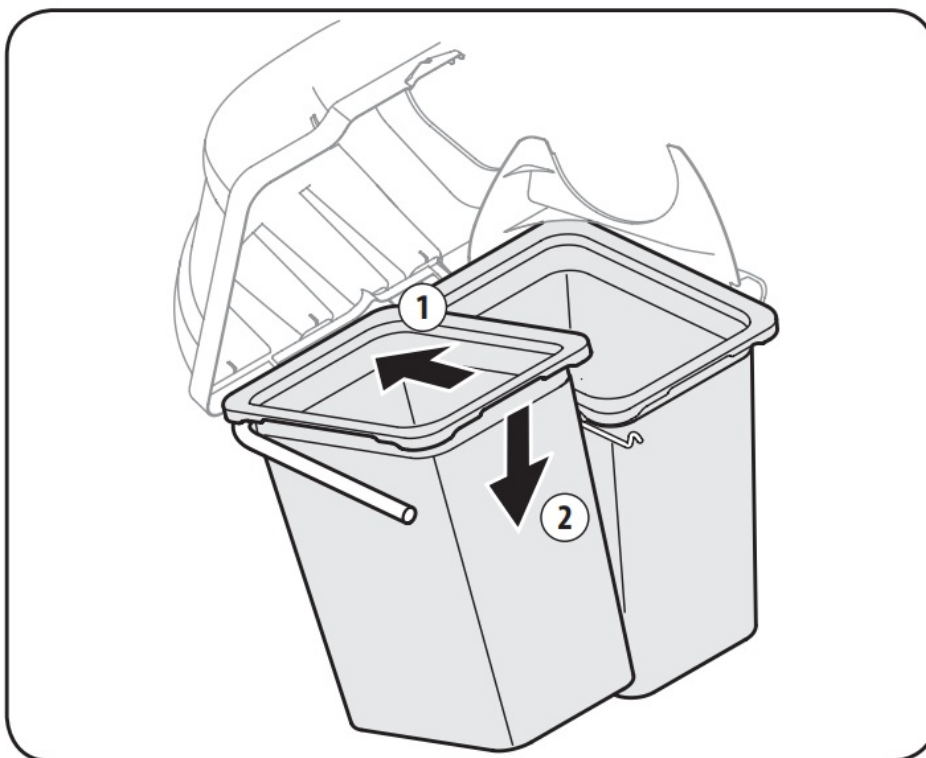

Figure 4-13
14. Install both bag assemblies onto the bag support brackets by inserting the front edge in first, as seen in 1 of Figure 4-13, and setting the back edge down until it fits into the assembly (2).